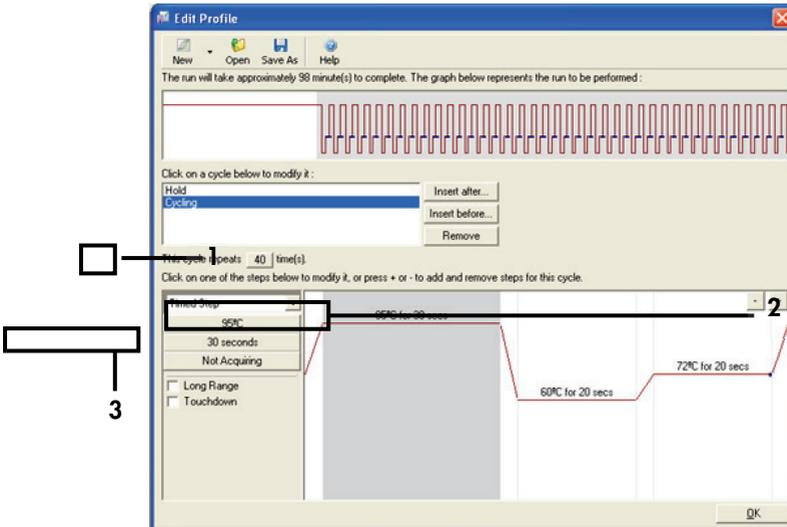

Figure 25. Cycling step at 95°C. 1 = "Cycle repeats" box; 2 = Step one: temperature setting; 3 = Step one: time setting.
8. Set the number of cycle repeats to **40**. Select the first step and set to **95°C** for **30 seconds** (Figure 25).